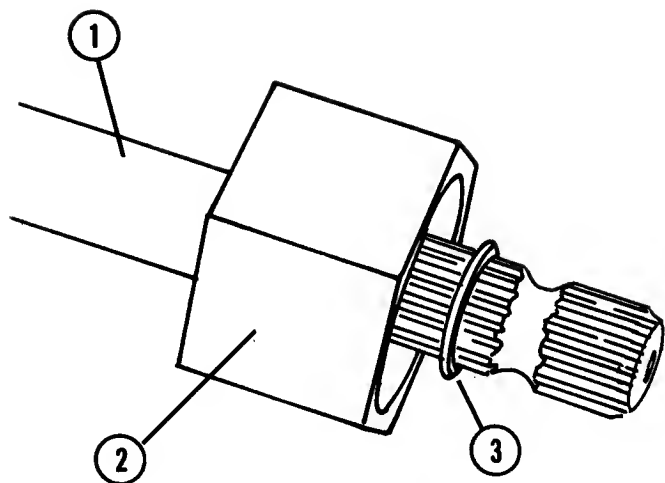

FIG. 2.30 — PTO REAR NUT & BEARING
1. Place pivot tube in axle and position thrust washers on end of tube. Fig. 2.30.
4. Install rear nut and bearing assembly on PTO shaft and install retaining ring in groove on shaft. Fig. 2.30.